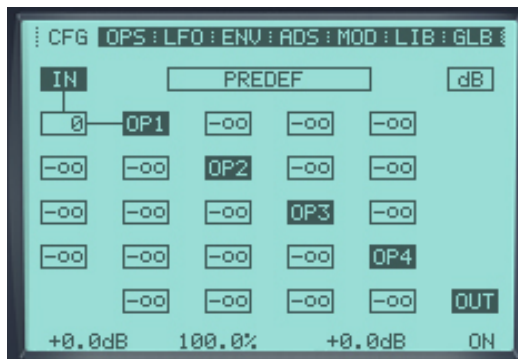

Fig. 7: IN and OP1 are now routed together, as in Fig. 4.
The first thing we want to do, just like the last example, is to connect the input (IN) to the first Operator (OP1). Click on the box and raise its value to 0dB, as shown in **Figure 7**. You will see a cable drawn between IN and OP1.